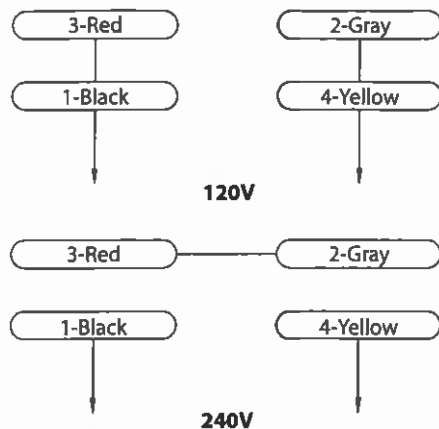

Figure 4 - Wiring Diagram
- Motor and wires are installed as shown in wiring diagram (See Figure 4, page 5). Motor is assembled with approved, 3-conductor cord to be used at 120/240 volts. Motor is prewired at the factory for 120 volts.